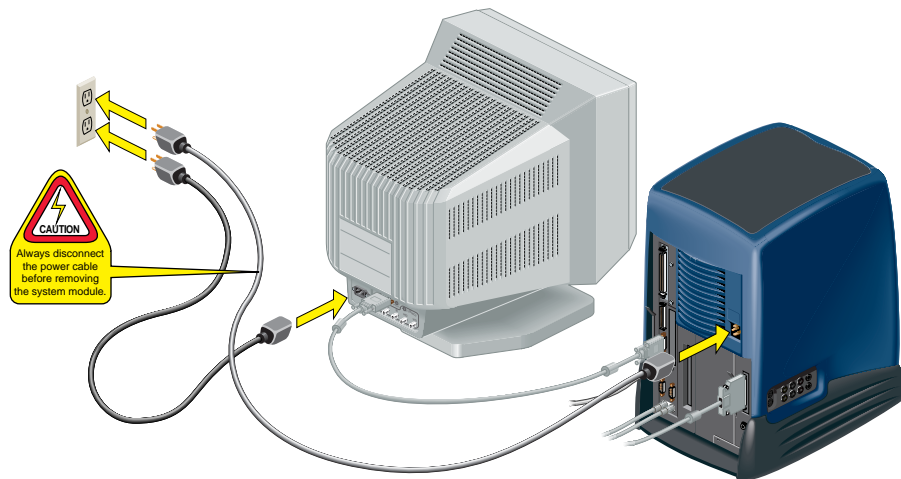

Figure 1-9 Connecting the Power Cables to the Monitor and to the Workstation
5. Connect the power cables as follows (Figure 1-9).